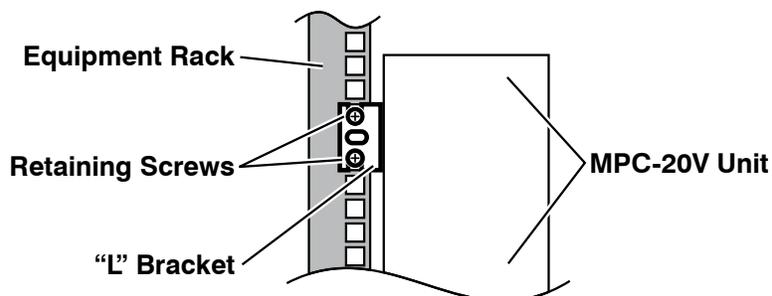

Figure E.2: Attaching the "L" Brackets to the Equipment Rack (MPC-20V Shown)
2. **Attaching the "L" Brackets to the Equipment Rack:** Determine which direction the MPC unit will face in the rack, then line the "U" slots in the "L" Bracket up with two holes in the equipment rack mounting strip. Make certain that the unit is level, and then use two screws to secure each "L" bracket to the rack as shown in Figure E.2.